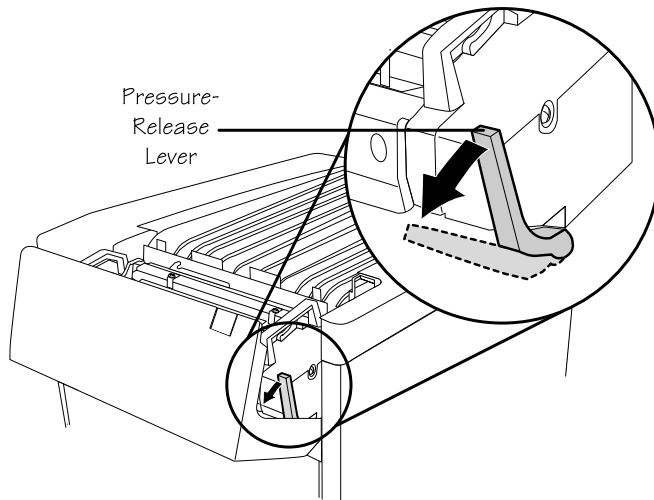

Fig. 9.10 *Open the Pressure-Release Lever*
4. Open the pressure-release lever on the fuser unit (fig. 9.10).